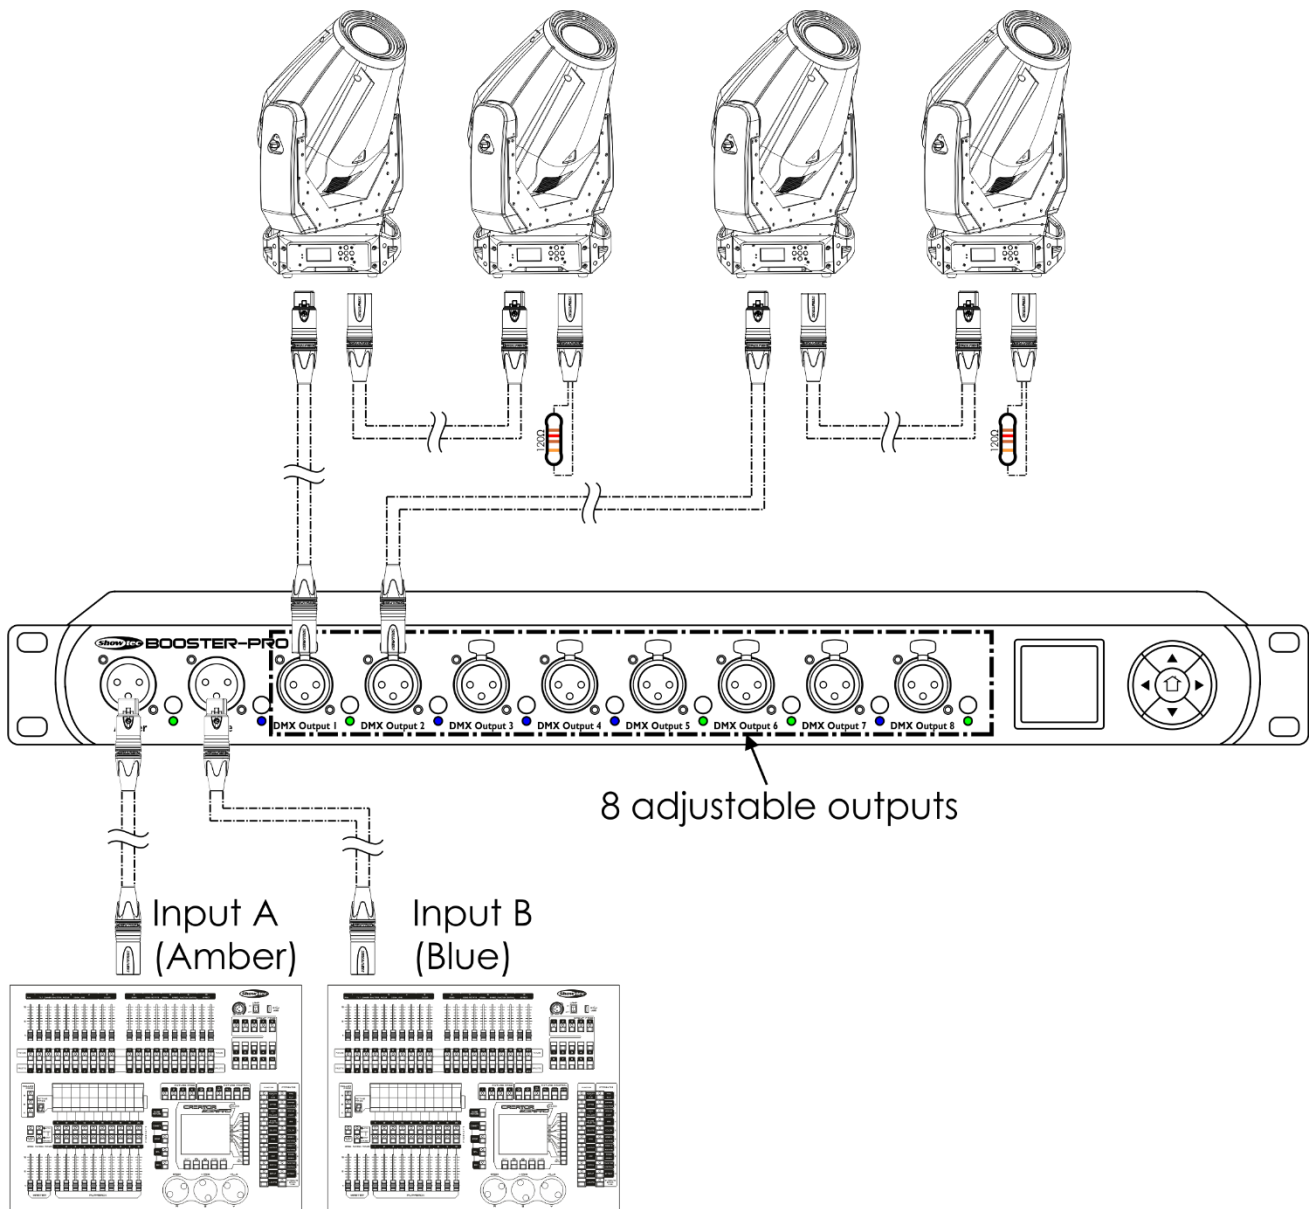

Fig. 04
- 05) Link the units as shown in fig. 04.